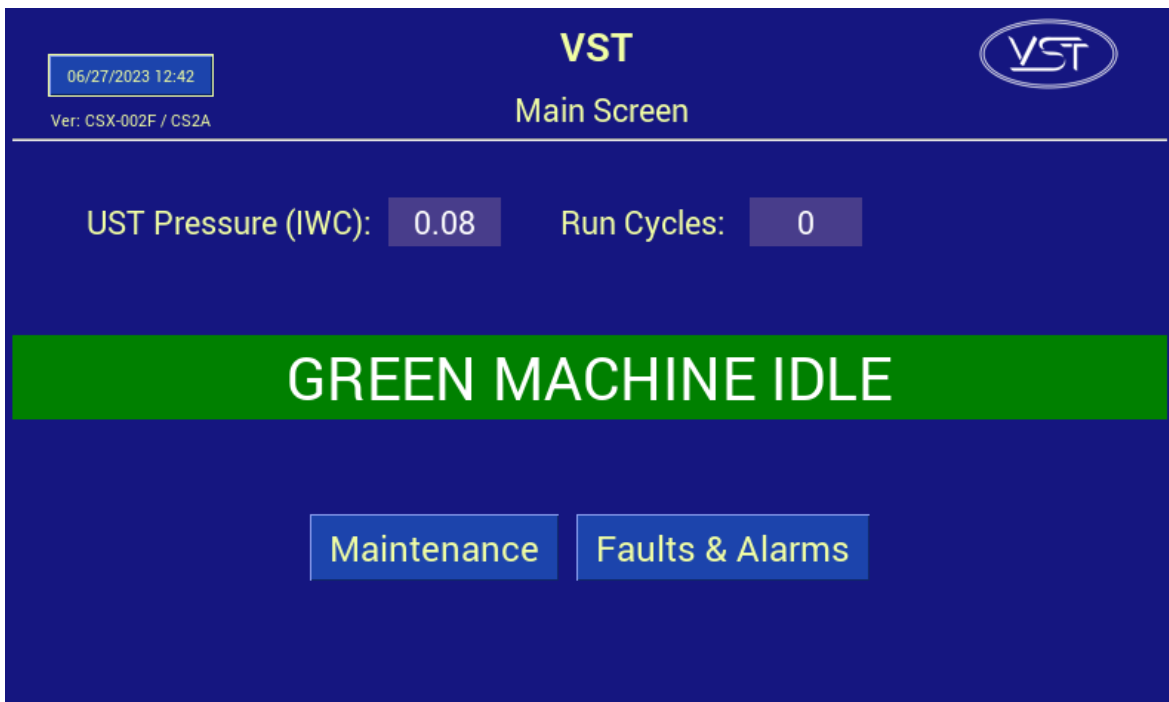

Figure 4-1: Main Screen
- The VST Control Panel is designed to manage the operations of the GREEN MACHINE based on UST vapor pressure. **Figure 4-1** shows the Main Screen with the following items:
- The PLC will always power up in the Main Screen. **See Figure 4-1.**